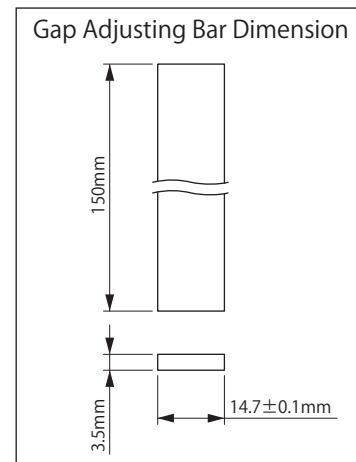

Figure 8-31
- (3) Insert a gap adjustment bar (An angle plate should be prepared by customer. See Figure 8-31) into the groove of adjustment screw [2] between the outer disk (14) and the center ring (1)